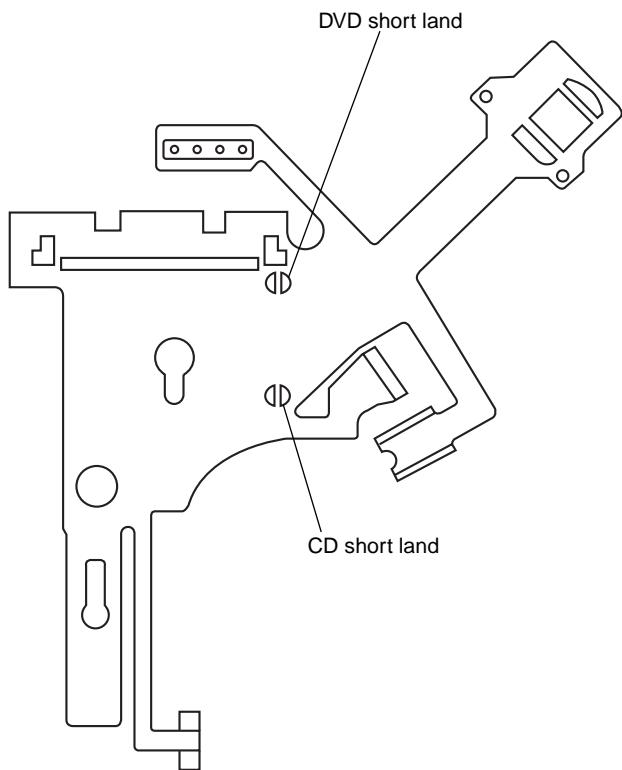

Fig. 1 Flexible board
- 2) As for the flexible board KHS-180A (RP) packed as service parts, the short lands have been soldered to protect from static electricity. Accordingly, remove solders when replacing optical pick-up. (See Fig. 1)